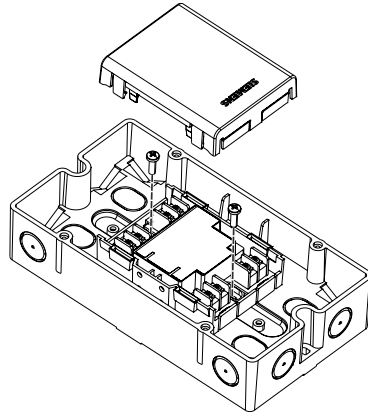

Fig. 10
- Installation outside a switching cabinet or a control unit: use FDCH221 housing (Fig. 10) .
3. Mount the housing on an even surface with two screws (Fig. 10). Distance between holes:  $182.0 \pm 1.0$ mm.